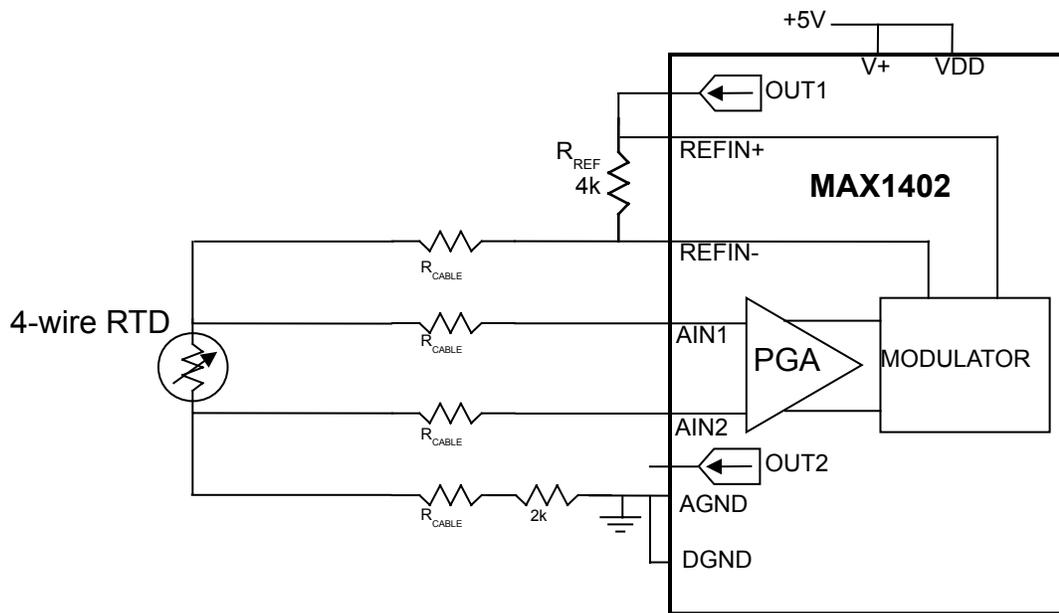

*Figure 40. Example of an integrated PNP thermal diode design.*
7. A typical structure for a vertical PNP with a substrate collector is shown in **Figure 40**. The ten emitters are connected together. Each emitter is  $20\mu\text{m}$  by  $2.5\mu\text{m}$ .